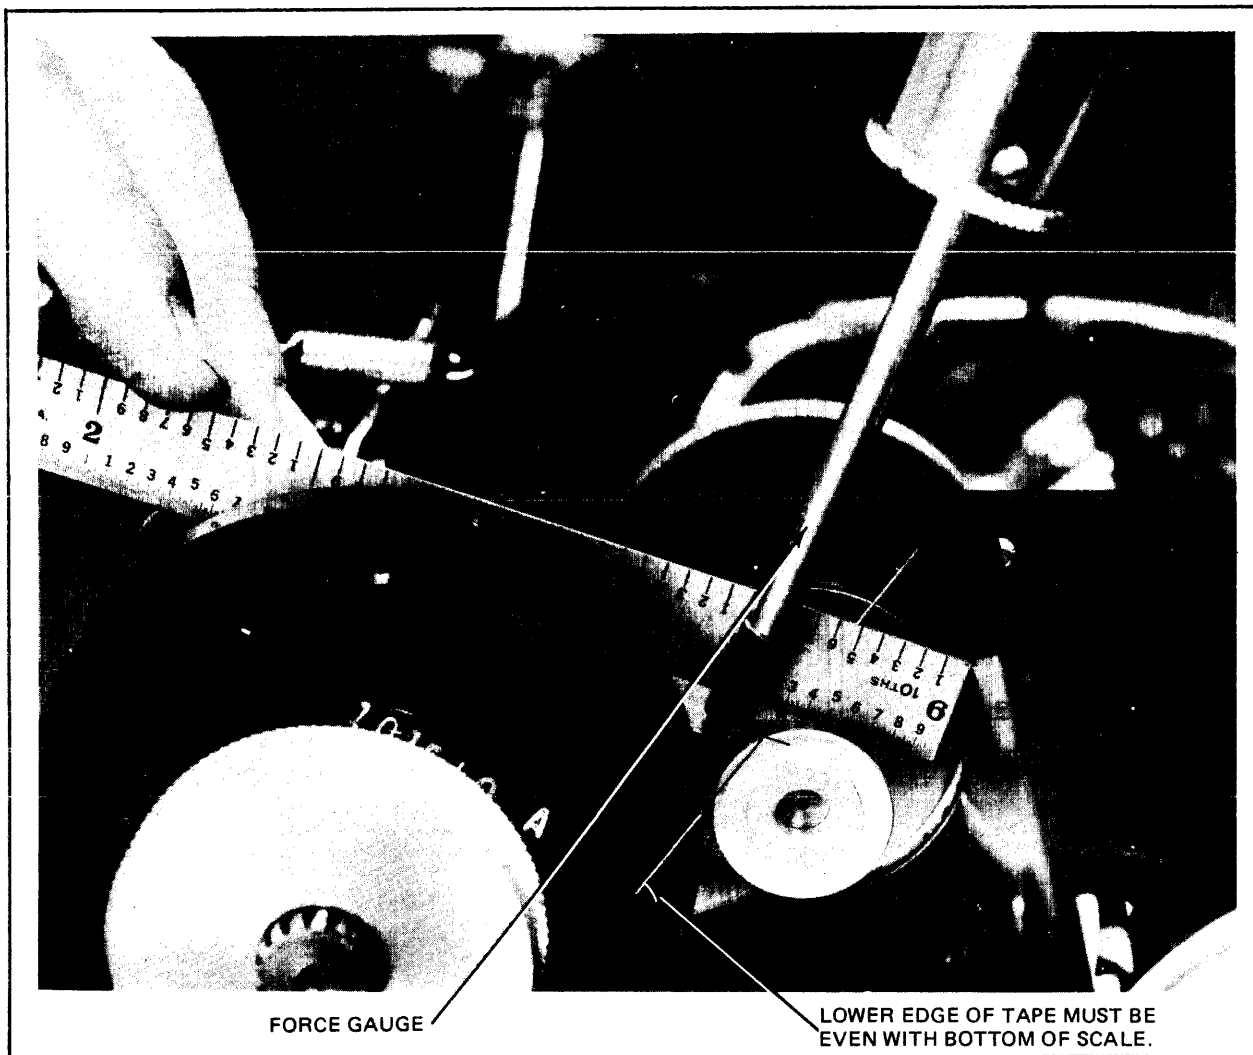

Figure 42 Checking Paper Feed Belt Tension, Using Force Gauge
c. Holding the scale against the belt and resting on the belt over both pulleys (figure 42), press tip of the force gauge against the belt, midway between the pulleys. Press gauge down against the belt until lower edge of the scale is aligned with the mark on the gauge tip. The force gauge should indicate one pound ( $\pm$ two ounces).